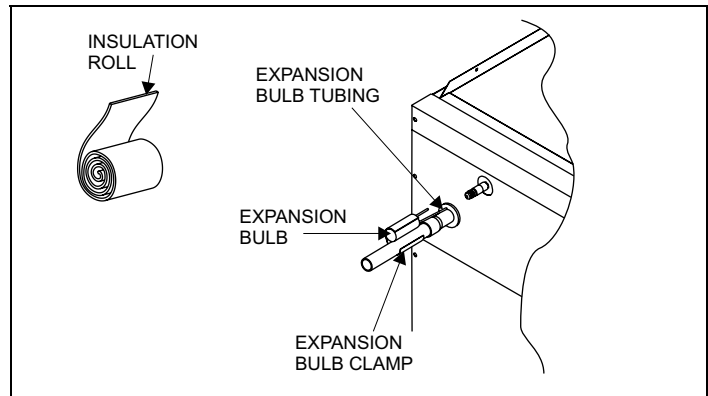

FIGURE 2: TXV Bulb Installation
- Secure the TXV bulb to the suction line with the clamp provided. Choose a horizontal location as close to the cabinet as possible, but not directly on the brazed connection joint. Refer to Figure 2.